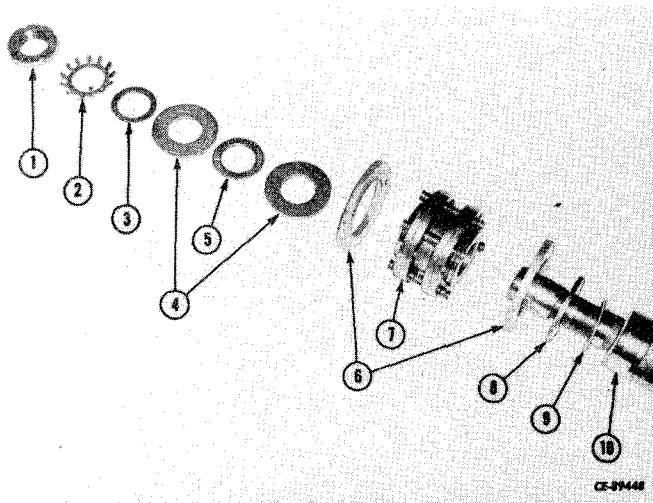

Figure 8-21
Install thrust bearings (5, 9, Fig. 8-21), thrust washers (4 and 8), centering washers (6), actuator (7), washer (3), lock washer (2) and lock nut (1) on cam (10). Tighten lock nut to required torque (refer to "SPECIAL TORQUES" under "SERVICE INFORMATION").